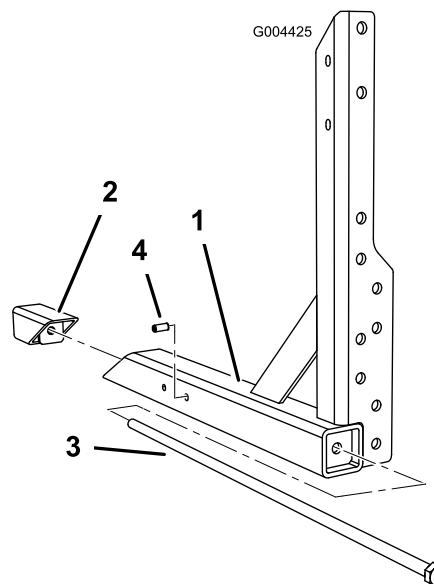

Figure 6
1. Assemble the frame bolt through the upright and into the frame wedge (Figure 6).
2. For 5700 turf sprayers, install a roll pin into the outside hole, closest to the angle support (Figure 6).